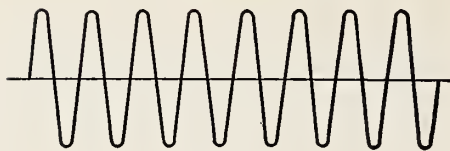
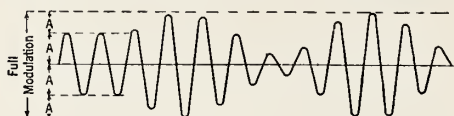

FIG. 2
FIG. 3
through the main or common ammeter (1) remains sensibly constant, while that of the ammeter (2) in the modulator branch varies at audio frequency, the current through the ammeter (3) in the oscillator branch must vary correspondingly, as an inverted image of the modulating currents. (D. C. ammeters in these leads will show a constant reading, which is the *mean* plate current; only an oscillograph could follow the audio-frequency variations.) The last variation continuously affects the amplitude of the carrier. Thus the carrier, which when blank, or unmodulated, appears as in Fig. 2, is narrowed and widened according to a modulation "envelope," as in Fig. 3. This envelope is the audio variation which it is desired to impress on the carrier, and which will be reproduced after rectification or demodulation in the receiver.